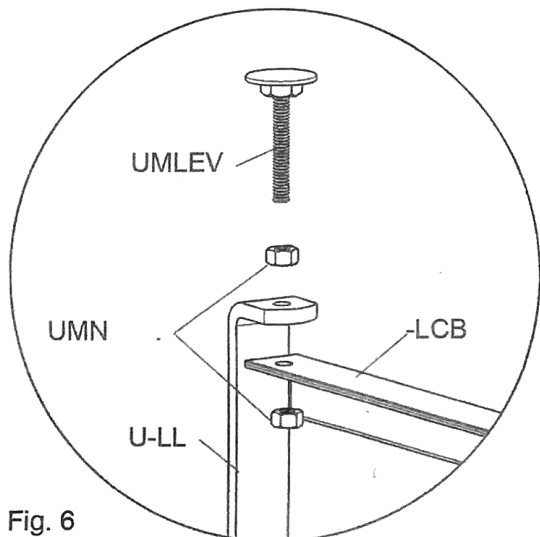

Fig. 6
14. Attach leg connector bar (LCB) using the adjustable leg levellers (UMLEV) and nylon insert locknuts (UMNNYL). See Fig. 6.